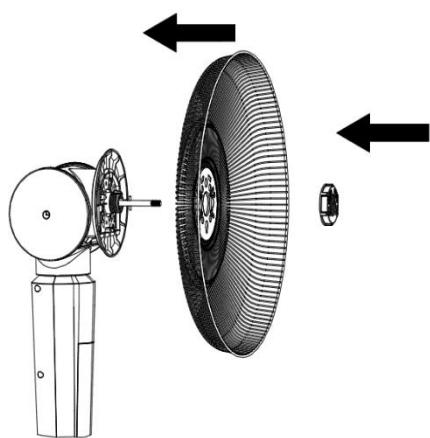

Figure 3
- C. Mount the rear grill to the front cover of motor and align the 3 positioning points to the holes on the grill. Fix them with grill nut (Figure 3).